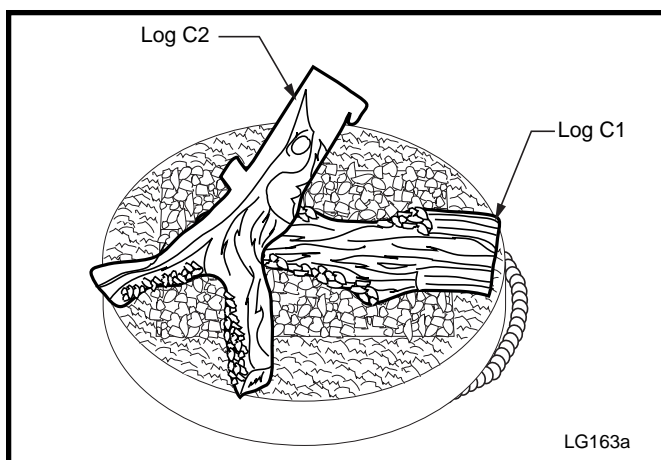

Fig. 12 Log C2 placement.
5. Move around so that flex line is now on your right. Place log C2 with “Y” part of log toward the outside of the burner ring. (Fig. 12)